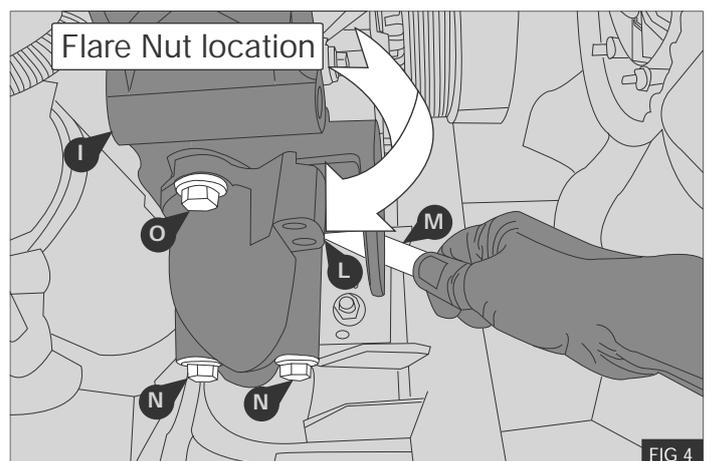
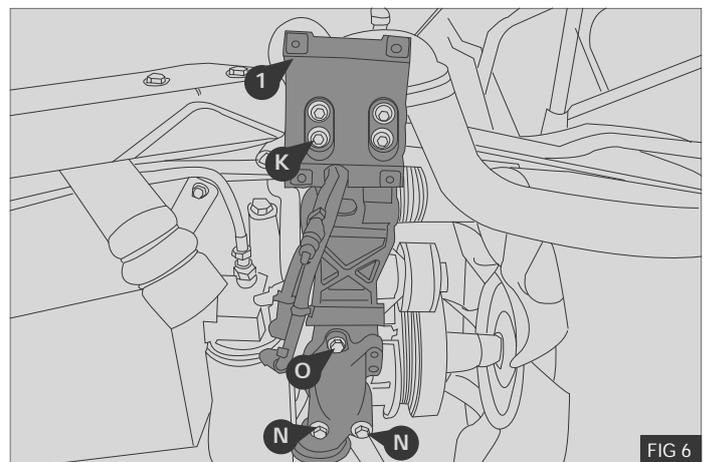

FIG 4
FIG 6
14. Undo the flare nut **L** securing the pipe mounted on the bottom of the bracket **I** using a 19MM flare nut spanner **M** - Fig.4
15. Remove and retain the 2 off M10 x 110 bolts **N** and 1 off M10 x 45 bolt **O** securing the bracket **I** - Fig.4
16. Remove and retain the original bracket **I** - Fig.4
1. Mount the bracket assembly (1) using 2 off M10 x 110 bolts (N) and 1 off M10 x 45 (O) previously removed, do not fully tighten - Fig 6
N.B Fit the original wiring loom through the supplied bracket before mounting - Fig.6
2. Connect the original pipe to the fitting on the bottom of the bracket with the flare nut (L), do not fully tighten.
3. Fit the 4 off M8 x 50 bolts (K), do not fully tighten.
N.B Make sure that the original engine lift bracket is in position between the bracket (1) and the engine.
4. Torque the three M10 bolts (N) & (O) to 35Nm / 26 lb.ft
5. Torque the four M8 x 50 bolts (K) to 25Nm / 18 lb.ft
6. Tighten the pipe flare nut (L) - Fig.4